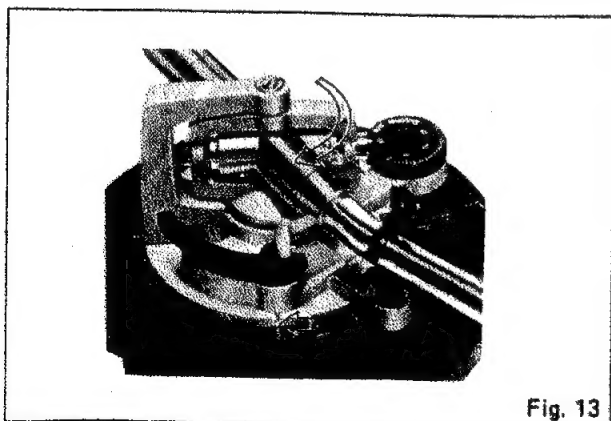

Fig. 13
4. Adjust the arm base so that the red line mark on the arm base is set to the scale "3" of the control ring. Next, secure the positioning base plate with two setscrews. (See Fig. 13)